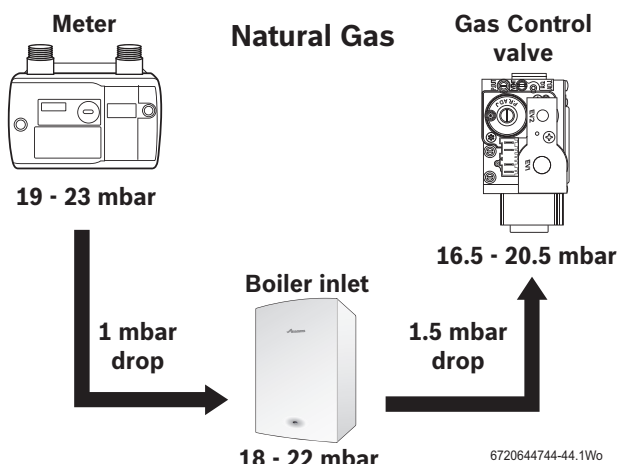
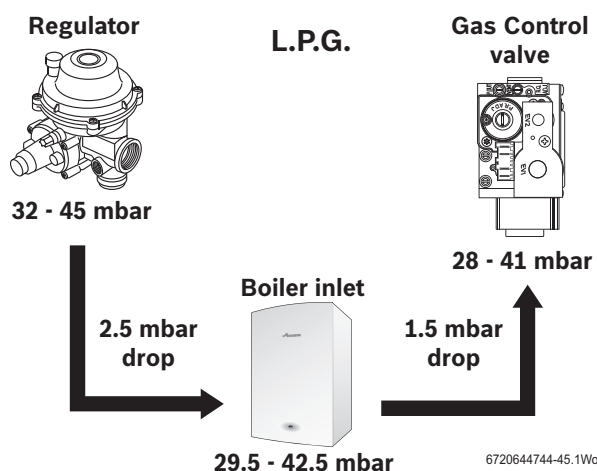

Fig. 64 Natural gas pressures
Fig. 65 L.P.G. pressures
- ▶ Check the gas supply working pressure at the gas valve conforms to values shown in Fig. 64 or Fig. 65.